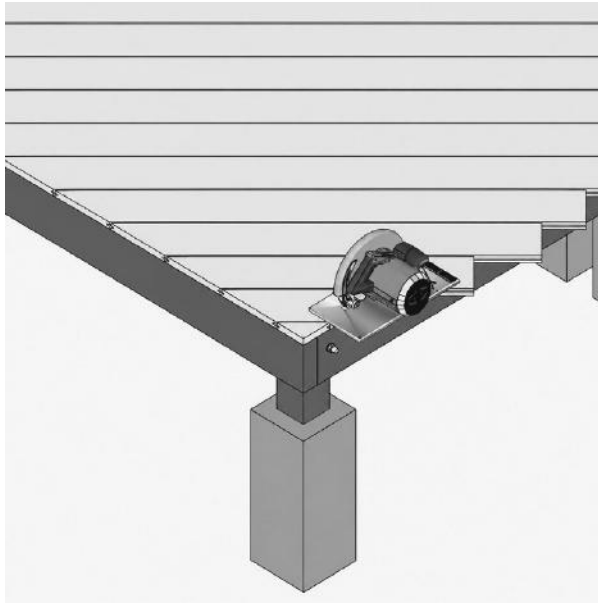

FIG. 13 – DECK-BOARD OVERHANG TRIMMED WITH A CIRCULAR SAW
- 01 Once all boards have been fixed in place, trim the deck-board overhang with a circular saw (fig. 13). Complete the deck with finishing as per the fascia, corner-trim or edge-board sections.